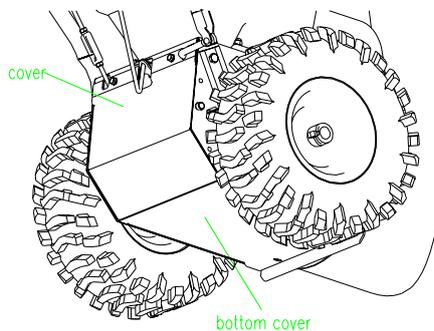

FIG 20
- 6.5.3 Remove the upper and the bottom cover. (FIG20)
**6.8.3** Remove the upper and the bottom cover. (FIG 20)